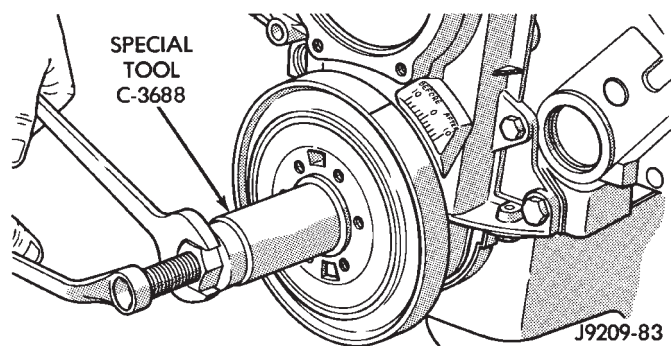

Fig. 22 Installing Vibration Damper
(1) Position the vibration damper onto the crankshaft.
(2) Place installing tool, part of Puller Tool Set C-3688 in position and press the vibration damper onto the crankshaft (Fig. 22).